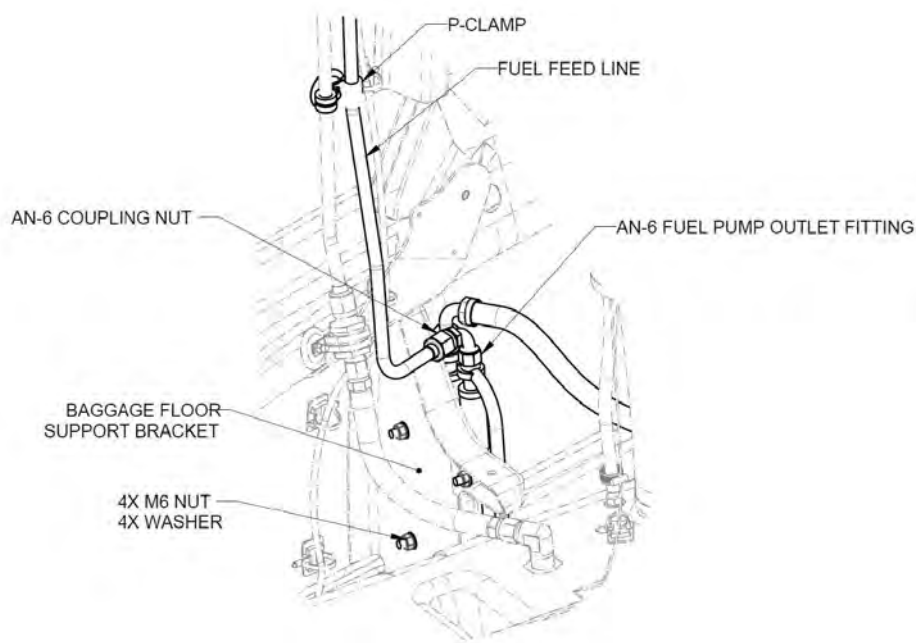

FIGURE 11-18
1. Install the Fuel Pump onto Baggage Floor Support Bracket. (See Figure 11-18.)